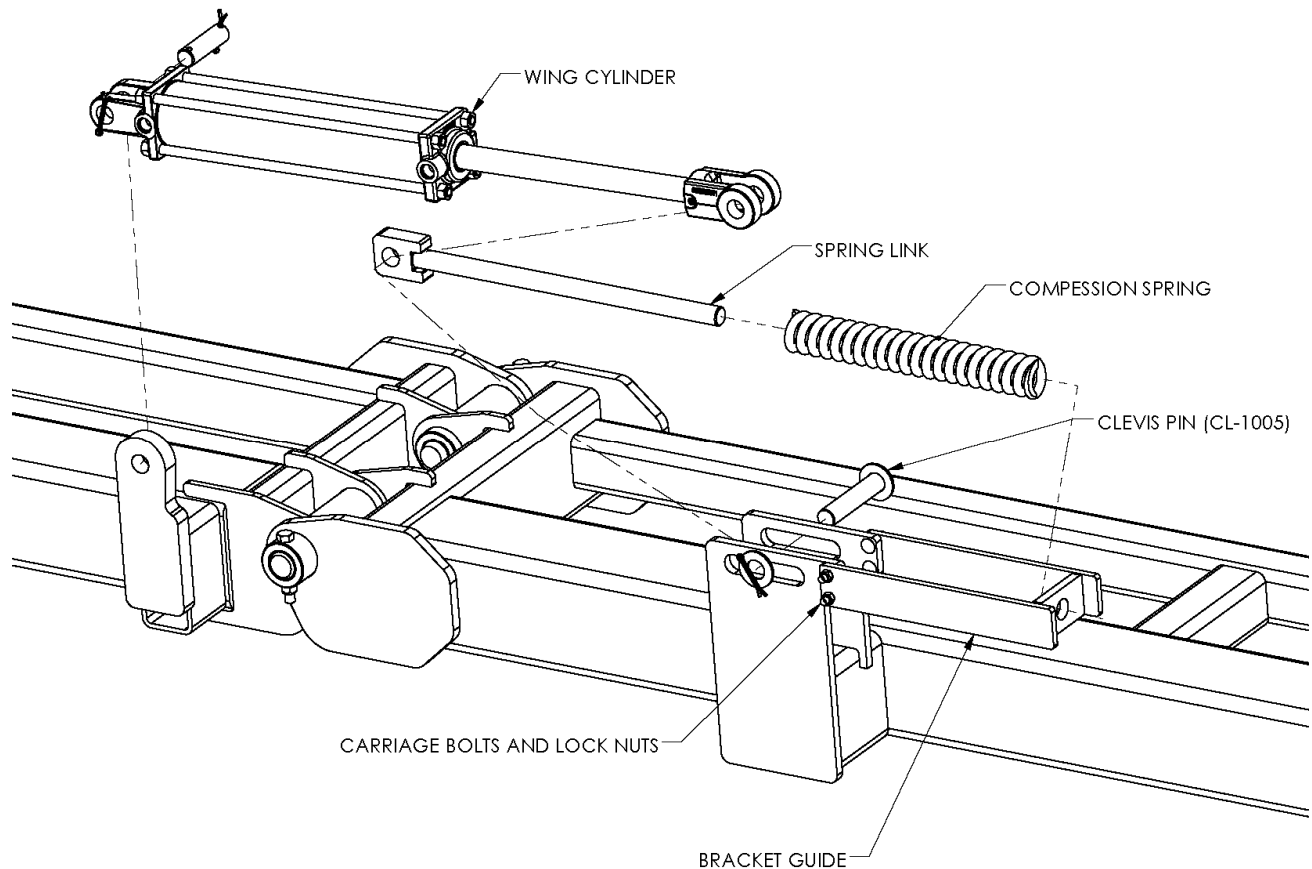

Figure 10
1. Attach the Guide Brackets to the wing cylinder posts. Carriage bolts must face outward. Use the 1 1/2" x 8 5/16" hinge pins, 1/2" x 3 1/2" grade 8 bolts, and locking hex nuts. Refer to Figure 10.